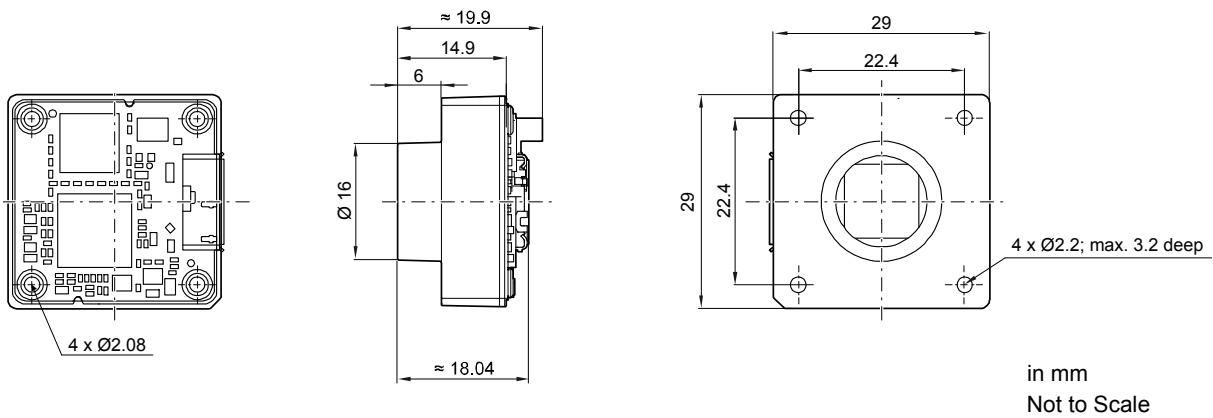

Fig. 6: Mechanical Dimensions (in mm) for Cameras with S-mount Lens Adapter
- dart cameras equipped with an S-mount lens adapter are as shown in Figure 6.